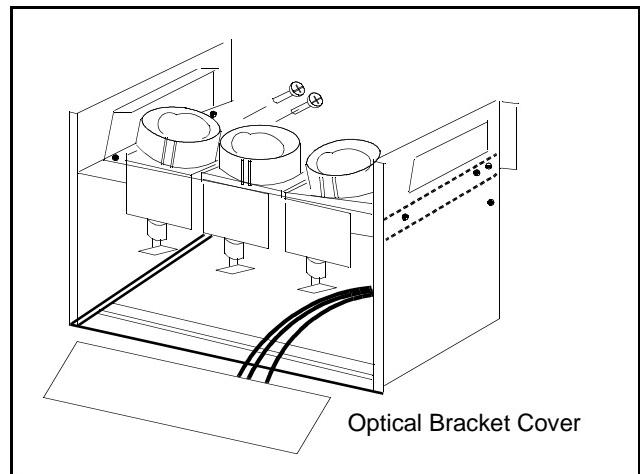

Figure 15. CRT Replacement.
7. Remove (2) screws from the defective CRT housing (Figure 15).**
- CAUTION:** Do not remove the (4) CRT lens screws.